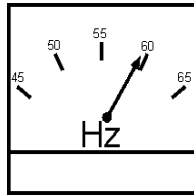

Figure 61. Frequency Meter
7. The generator's frequency meter (Figure 61) displays the 60 cycle output frequency in HERTZ.